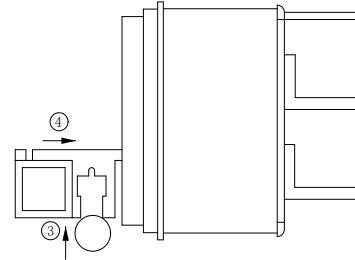

Figure 8-3
- (3) As shown in Figure 8-3, in the direction of arrow ③, press the new fuse into the slot
- (4) As shown in Figure 8-3, in the direction of arrow ④, press the fuse holder into the power holder to complete the installation.